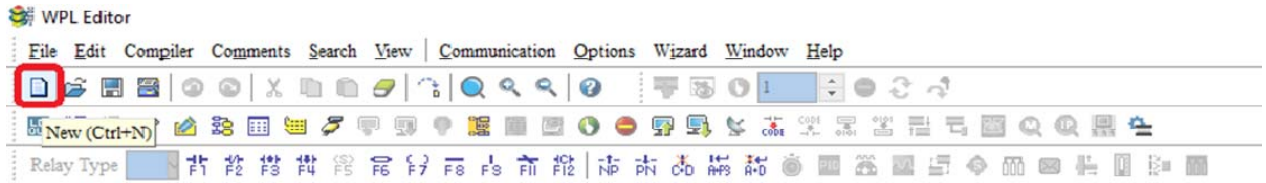

Figure 16-4
Step 3: Click on the  icon on the toolbar: opens new file (Ctrl+N), see figure 16-4 below